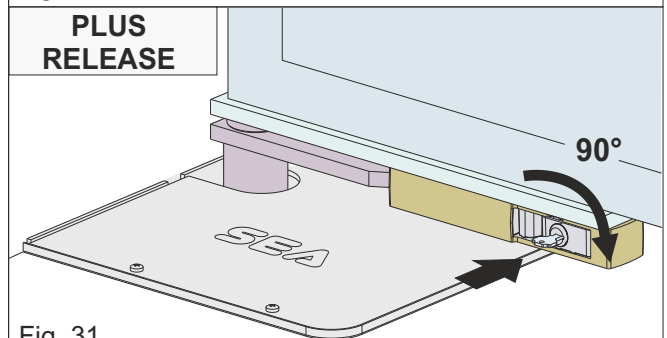

Fig. 31
- insert the supplied key into the lock and turn it 90 ° clockwise (Fig. 31)